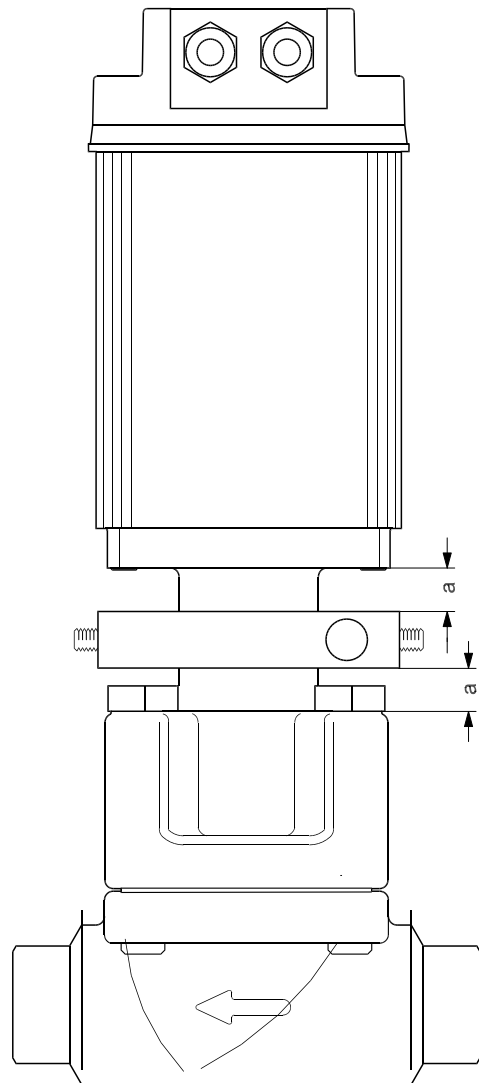

Fig. 3
- Install the heat cartridge holder on the ICAD. Position the heat cartridge holder in a center position as shown on fig. 3